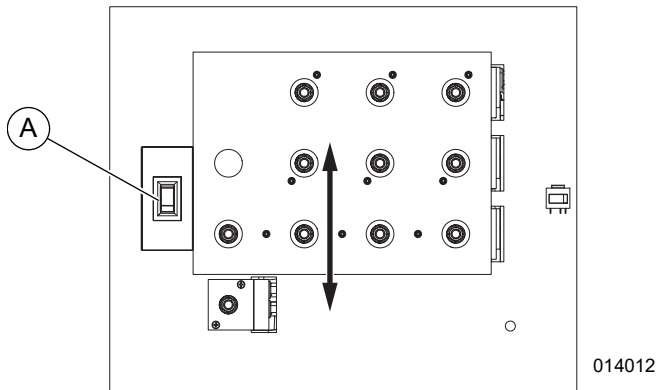

Figure 3-2. Link Board
- See **Figure 3-2** and **Table 3-2**. Verify toggle switch (A) is in correct position for the desired voltage.